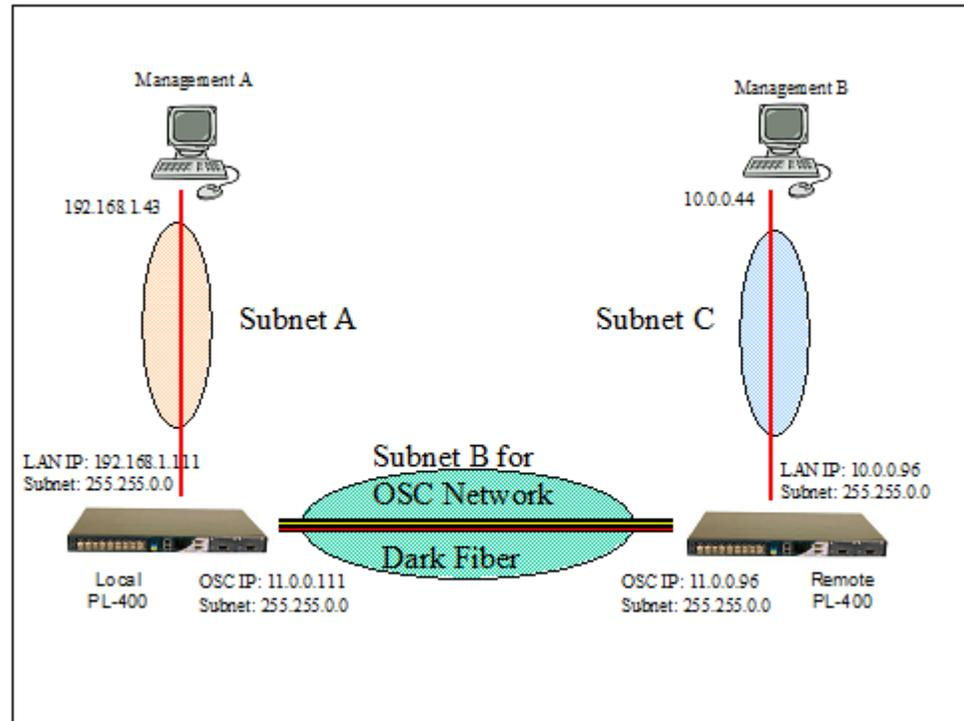

Figure 5-2. Remote Management Set-up
- Different IP addresses should be assigned to each OSC **MNG** port in both the remote and local boxes. Note that both of these IP addresses belong to the same subnet (subnet B in Figure 5-2).
http://IP_address (11.0.0.96 according to the example illustrated in Figure 5-2).